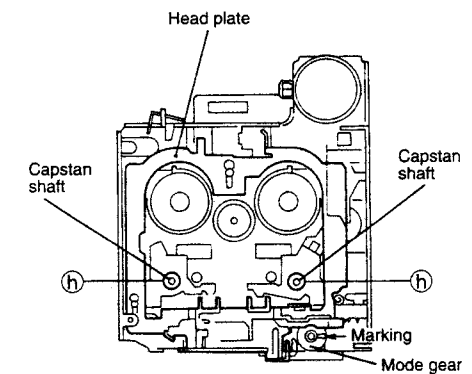

Fig. 19
8. Pull out the mode gear. (Fig. 19)
7. Remove E washers ⑨ at the two positions which secure the capstan shaft away from the surface. (Fig. 19)